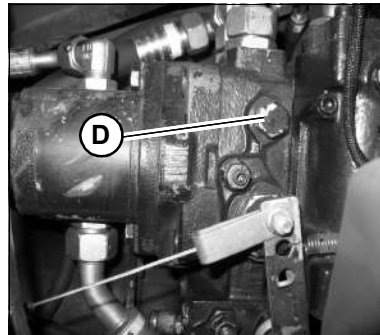

Figure 58 – Hydraulic System Bypass Valve (AL 100 Series)
3. Loosen the hydraulic system bypass valve (D, Fig. 58) one to two turns.